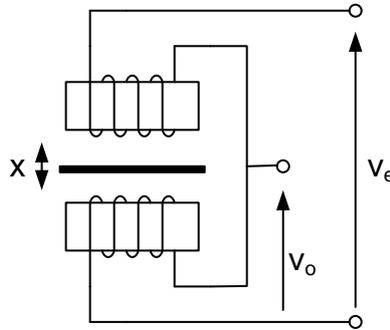
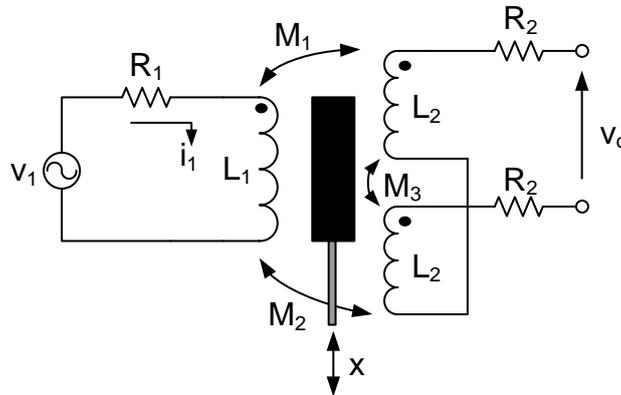
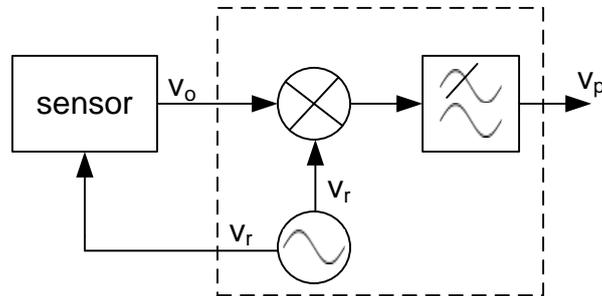

Figure 3: Inductive sensor based on two coils in series.
Figure 4: LVDT sensor.
Figure 5: Sensor with phase sensitive detector.
Figure 3 shows a two coil based linear displacement transformer that can be used to sense the displacement of an object over a distance x . The two coils each consist of N windings and are connected in series to each other. An excitation voltage v_e is placed over the two coils. The voltage drop over one of the coil (i.e., lower coil in Figure 3) is used as the output voltage v_o of the sensor.
(4p) (c) The linear variable differential transducer (LVDT) shown in Figure 4 is often used to sense displacements instead of the two coil sensor shown in Figure 3. When a purely resistive load R_L is connected to the output of the sensor, its output voltage is equal to:
- (5p) (e) The displacement sensor from Figure 4 is connected to a phase sensitive detector. This detector consists of an analog multiplier connected to a low-pass filter. Using this processing circuit, it is possible to recover the magnitude and direction of the displacement from the output signal of the sensor. The block diagram of a phase sensitive detector is shown in Figure 5. The displacement of the object is given as a function $x(t)$. Assume further that the reference voltage v_r is equal to: